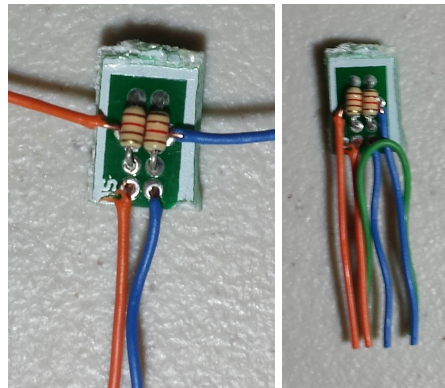

Figure 7.3: Constructing the Terminator
9. The board should now look like Figure 7.3 (left side).
11. Carefully, so as not to disturb the order of the wires, trim the excess wire so the wires extend about 1" (25 mm) from the end of the PCB. Be sure to make the cut so you leave a clean, straight edge to the flat bundle of wires. See Figure 7.3 (right side).